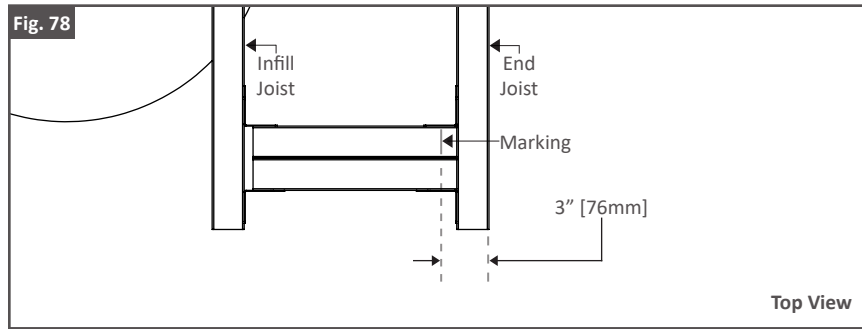

Fig. 79
5. Position cut Joist assembly along markings and flush with top faces of framing Joists. As shown in Fig. 79 & 80.